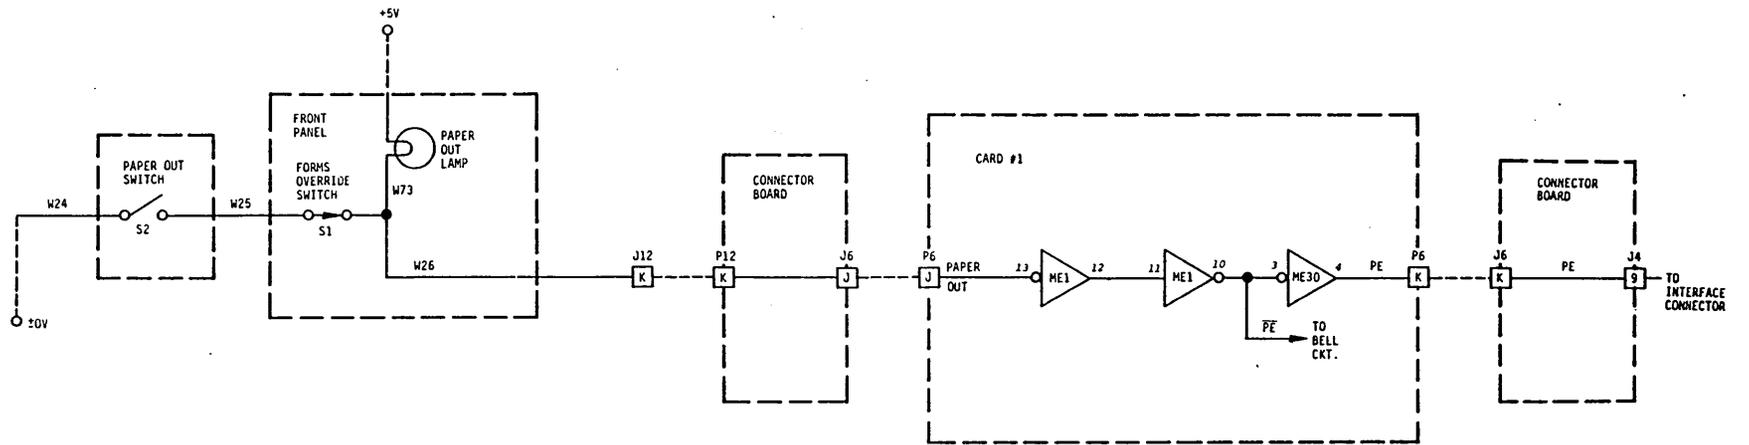

Figure 4-26. PAPER EMPTY
4.7.3 PAPER EMPTY (Figure 4-26)